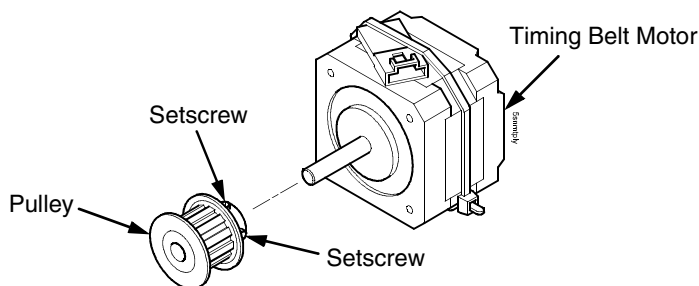

Figure 96. Removing the Timing Belt Motor Pulley
5. Loosen the two setscrews on the motor pulley and remove the pulley. Unplug the motor cable, if necessary. (Figure 96.) Go to step 6.